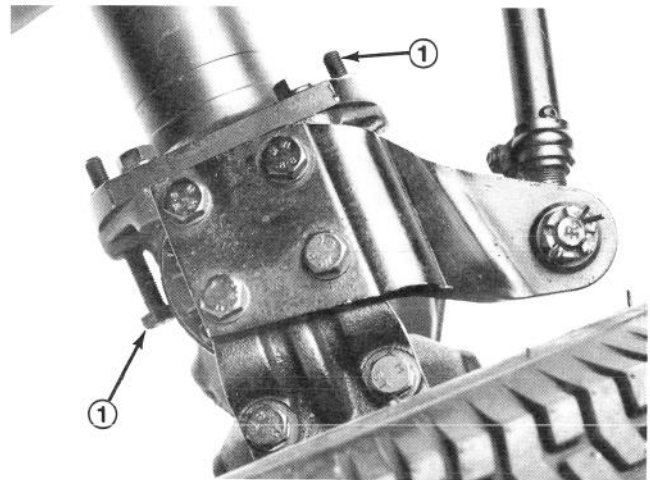

Figure 58
1. Thread bolt in or out until .090" clearance is attained (Fig. 58).